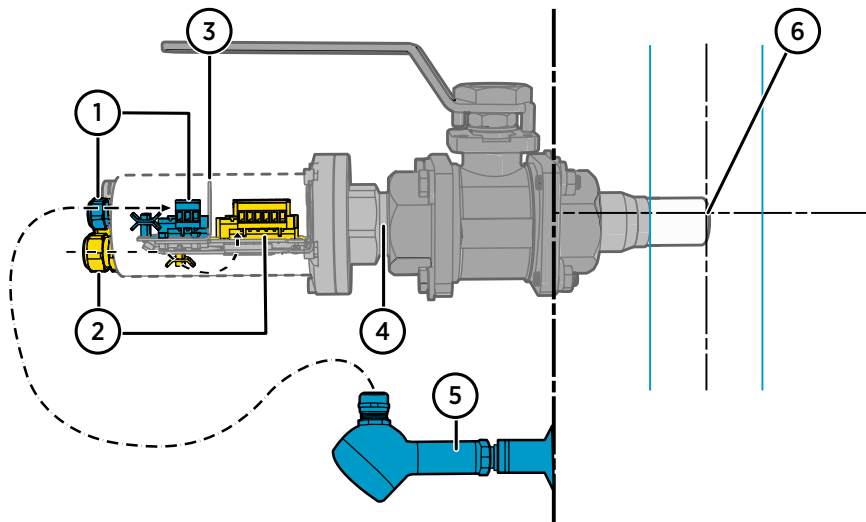

Figure 2 MGP260 series probe installation example with wiring routes and recommended orientation and depth
Figure 2 (page 11) shows an example MGP260 probe ball valve installation. The figure highlights the correct wiring routes and shows the recommended installation depth and orientation. An external pressure measurement instrument (item 5) is shown as an example of pressure compensation input options: for a description of alternative options, see Pressure compensation input options (page 12).
Figure 3 \(page 12\) shows the recommended installation position for MGP260. Install the probe in a straight run of pipeline, ≥ 5 pipe diameters downstream of the closest bend or other feature affecting gas flow, and ≥ 2 pipe diameters upstream to the next bend or similar feature. For best results, use the orientation and installation depth shown in Figure 2 \(page 11\).
- Pressure measurement received from an external pressure measurement instrument through the Ex ia (4 ... 20 mA) input terminals on the MGP260 component board. This is the recommended option: for an example, see Figure 2 \(page 11\). The wiring of the external pressure instrument input is shown in Wiring diagram \(page 18\).